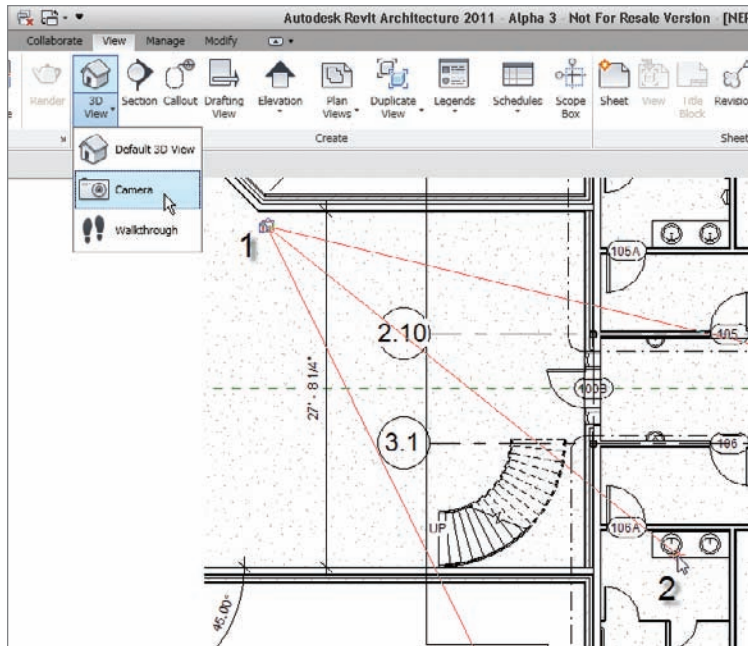

FIGURE 10.47 Adding the perspective view
3. Pick the first point shown in Figure 10.47.
4. Pick the second point shown in Figure 10.47.